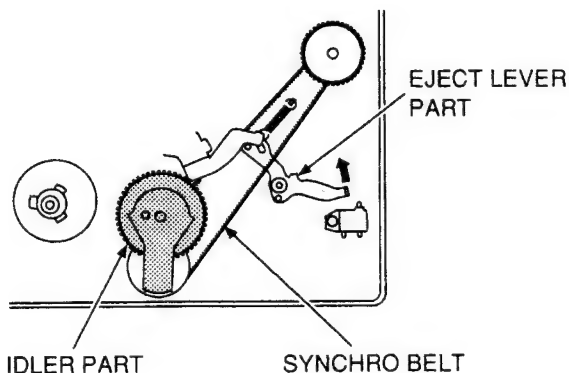

Fig. 3-25
4. Remove the (T) REEL PART (refer to 3-4-7).
5. Remove the IDLER PART by pulling it up then remove the SYNCHRO BELT as shown in Fig. 3-25.